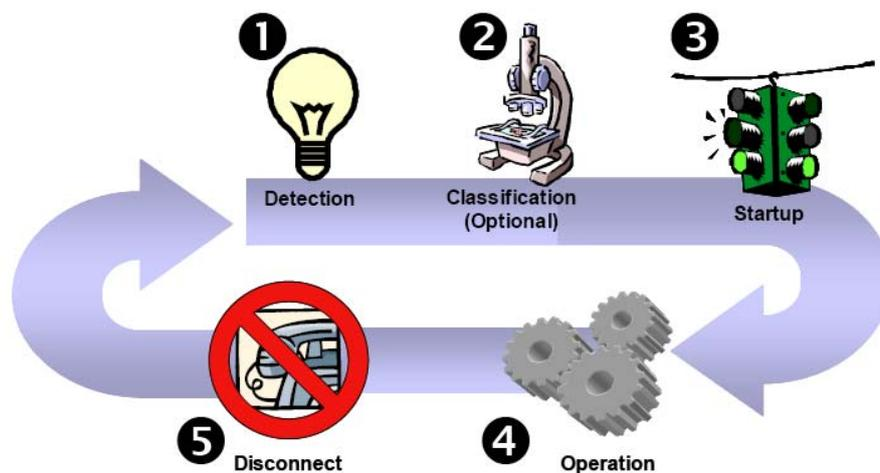

Fig. 6 - PoE Process Cycle
Figure 6 below illustrates the basic necessary elements required during the PoE power provisioning cycle. The PSE is the manager of the PoE process. In the beginning, only small voltage level is induced on the port's output, till a valid PD is detected during the Detection period (1). The PSE may choose to perform classification (2), to estimate the amount of power to be consumed by this PD. After a timecontrolled start-up (3), the PSE begins supplying the 48 Vdc level to the PD (4), till it is physically or electrically disconnected (5). Upon disconnection, voltage and power shut down. Right afterwards, the cycle is restarted (1).